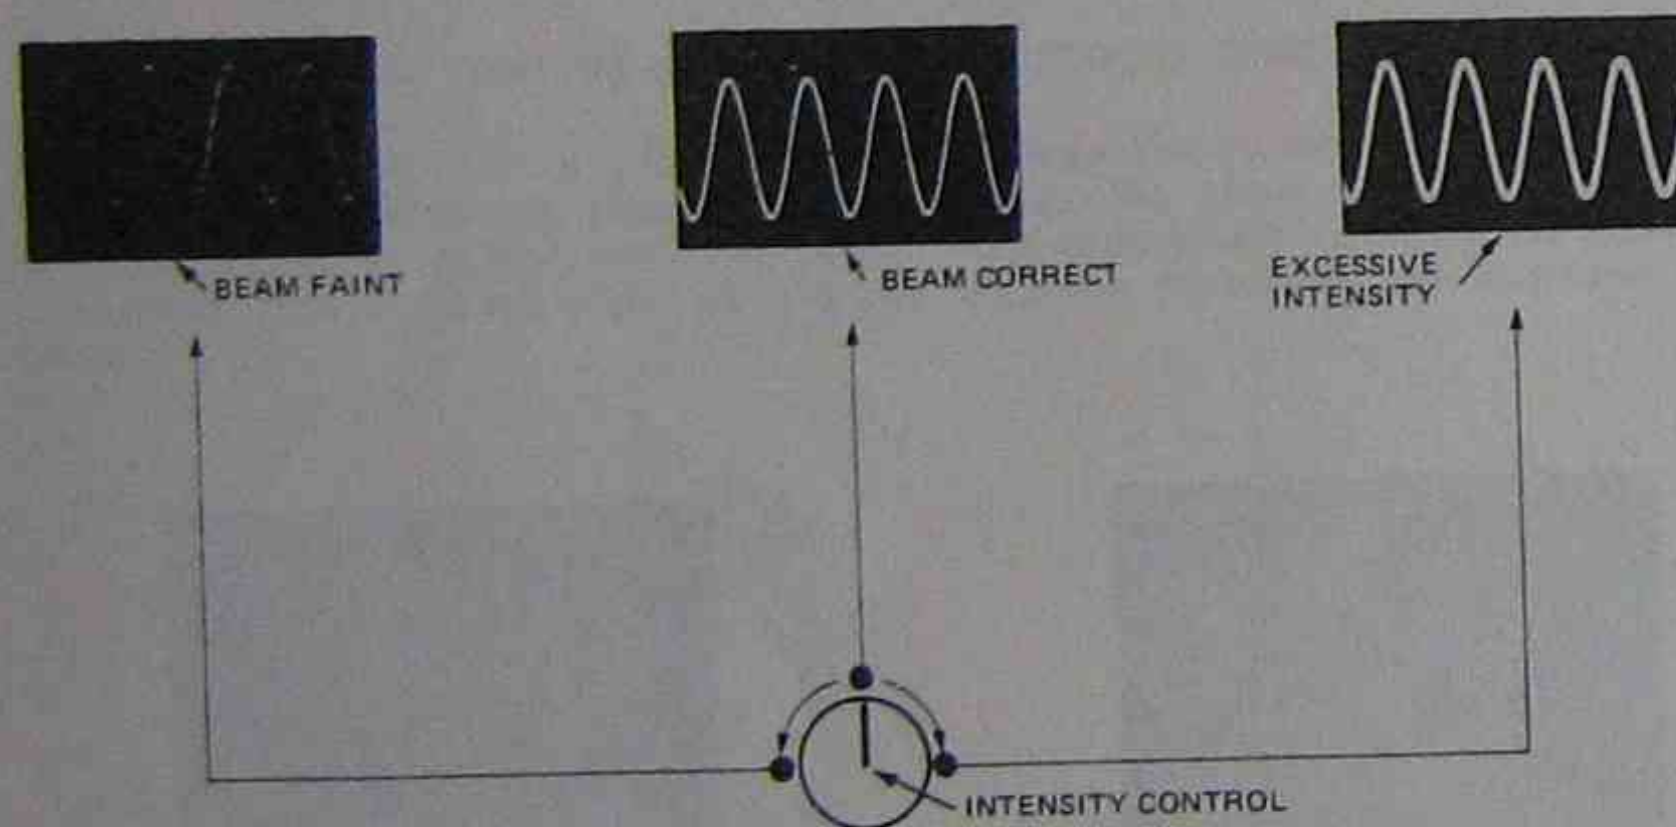

FIG. 27. VARYING THE INTENSITY CONTROL.
8.4 INTENSITY CONTROL. The intensity control provides the operator with a means of varying the intensity or brightness of the trace by controlling the number of electrons which bombard the screen. Fig. 27 shows a typical trace with three different adjustments of the intensity grid. The intensity control is adjusted to give a sharp clear trace in the particular viewing situation. For example, a C.R.O. being used in a brightly lit room would need a brighter trace than a C.R.O. being used in a dimly lit room.